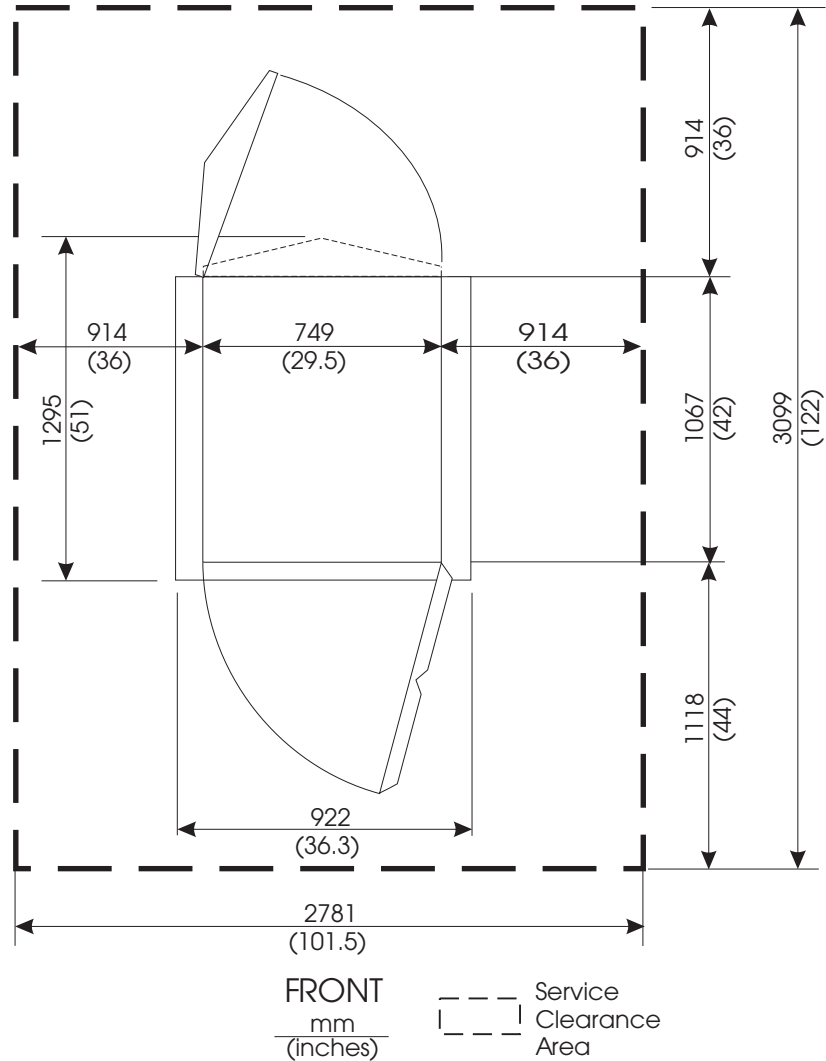
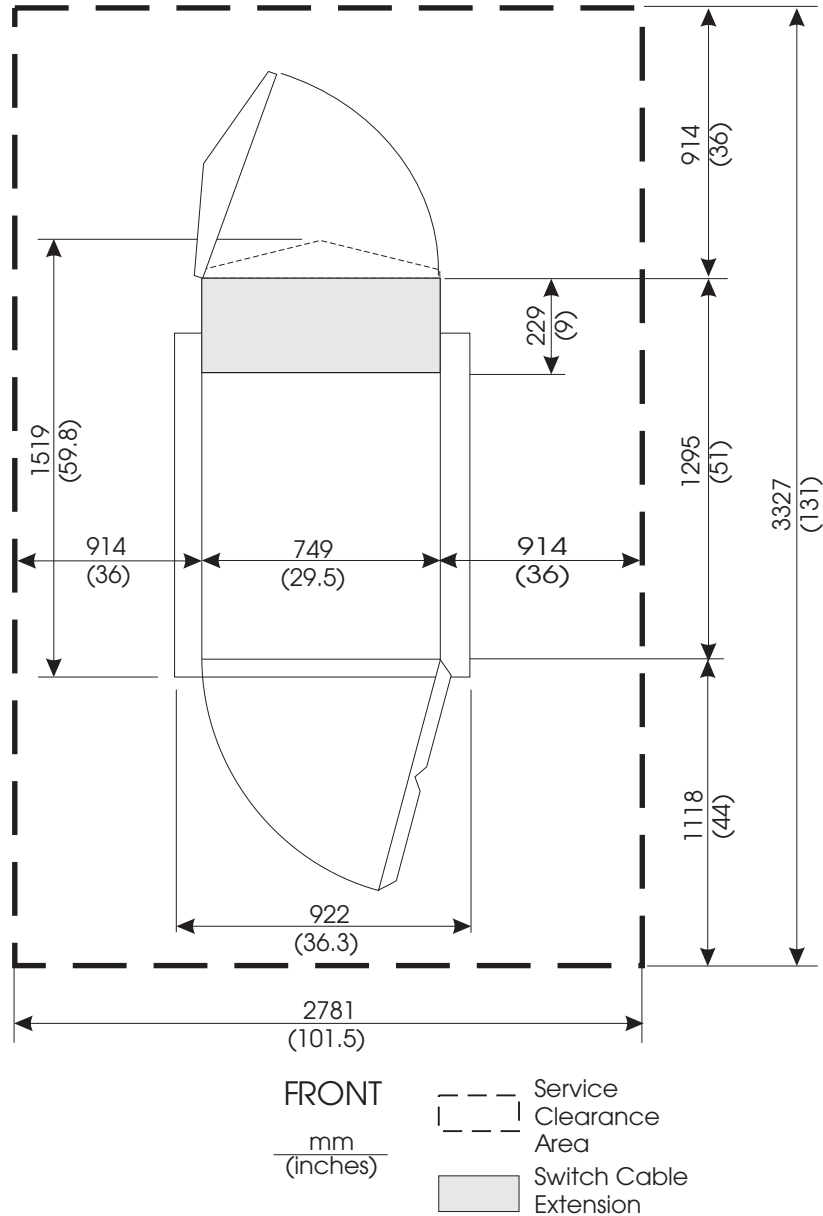
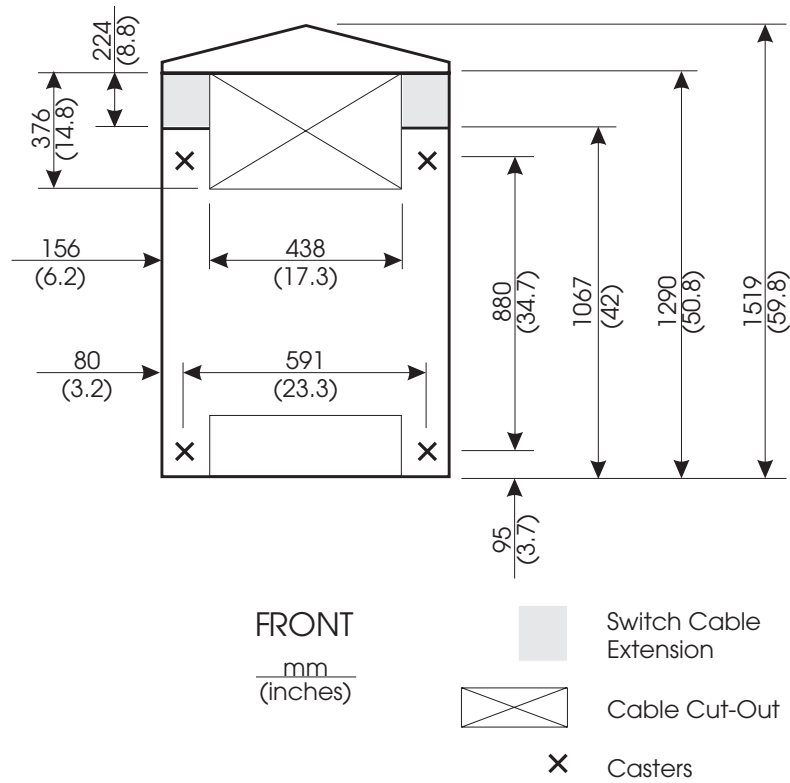

Figure 54. Service Clearances for 1.93 m Frames (not to scale)
Figure 60. 1.93 m SP Switch Frame Service Clearances For Frames Produced After 4/98 (not to scale)
Figure 61. 1.93 m SP Switch Frame: Cable Cut-out Dimensions and Caster Locations For Frames Produced After 4/98 (not to scale).
**Floor Preparation for 1.93 m Frames:** The diagrams in “Multi-Frame System Floor Planning and Illustrations” on page 277 show the required clearances between 1.93 m frames and adjacent units. This information is detailed in Table 81 on page 267 and illustrated in Figure 54 on page 269.
**Floor Preparation for 1.93 m Frames:** The clearance between the floor and the bottom of the rear door of the 1.93 m frame is 76 mm (3 in.). The front and side skirt clearance is 25 mm (1 in.) off the floor. The diagrams in "Multi-Frame System Floor Planning and Illustrations" on page 277 show the required clearances between 1.93 m frames and adjacent units. This information is also detailed in Table 81 on page 267 and illustrated in Figure 54 on page 269.
Refer to Figure 60 on page 275 and Table 81 on page 267 for the required clearances between SP Switch frames and adjacent units. For information about the frame's cable cut-out, see Figure 61 on page 276.
Table 81 lists the service clearances for 1.93 m (75.8 in.) SP frames. Illustrations in “Multi-Frame System Floor Planning and Illustrations” on page 277 show these service clearances as applied to typical SP system layouts. Service clearances for both the 1.93 m frame and the 1.93 m SP Switch frame are also illustrated in Figure 54 on page 269 and Figure 60 on page 275.
**Service Clearances for 1.93 m Frame:** Figure 54 illustrates the service clearances and the associated weight distribution area for 1.93 m (75.8 in.) frames.
**Service Clearances for 1.93 m SP Switch Frames (F/C 2031 only) Produced After 4/98:** Figure 60 illustrates the service clearances and associated weight distribution area for the 1.93 m SP switch frame.
Service Clearances	See “Service Clearance Specifications for Frames” on page 267, Figure 54 on page 269 and Figure 62 on page 278.
**Service Clearances** See “Service Clearance Specifications for Frames” on page 267, Figure 54 on page 269 and Figure 63 on page 280.